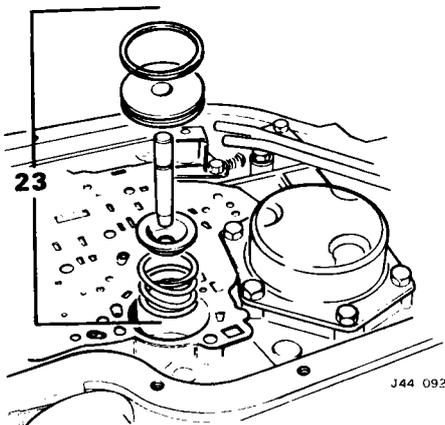

Fig. 11
23. Lift the front servo piston assembly from the transmission case (Fig. 11).